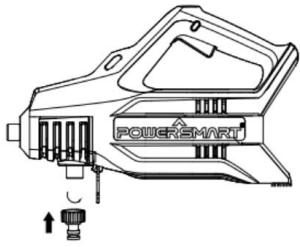

Fig.3
1. Attaching house connector as shown in Fig.3&4.